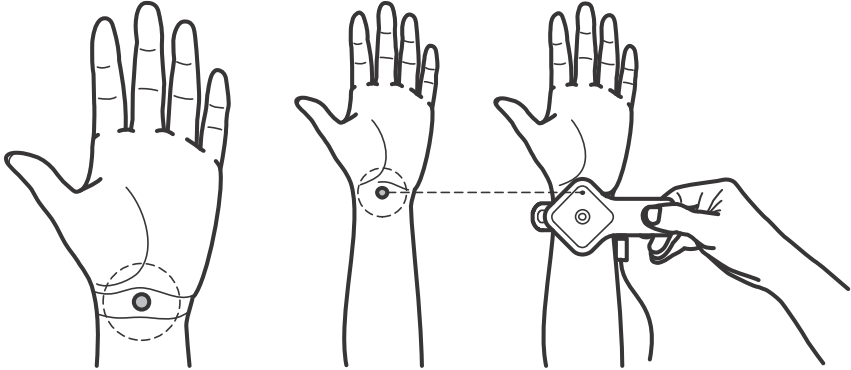

Fig. 5
8.4.5. Holding your left hand, palm up, place the device on the wrist. Biologically active points (BAP) on the left hand wrist should be aligned with the active electrode of the diagnostic unit (Fig. 1). BAP is in the middle of the fold line of the hand (Fig. 5).
BAP is easy to find. Bend your left hand at the wrist. Put your right thumb right in the middle of the formed fold between the hand and the forearm. Unbend your arm without lifting the finger. The finger will stand at the point where the active electrode of the device is adjusted (Fig. 5).